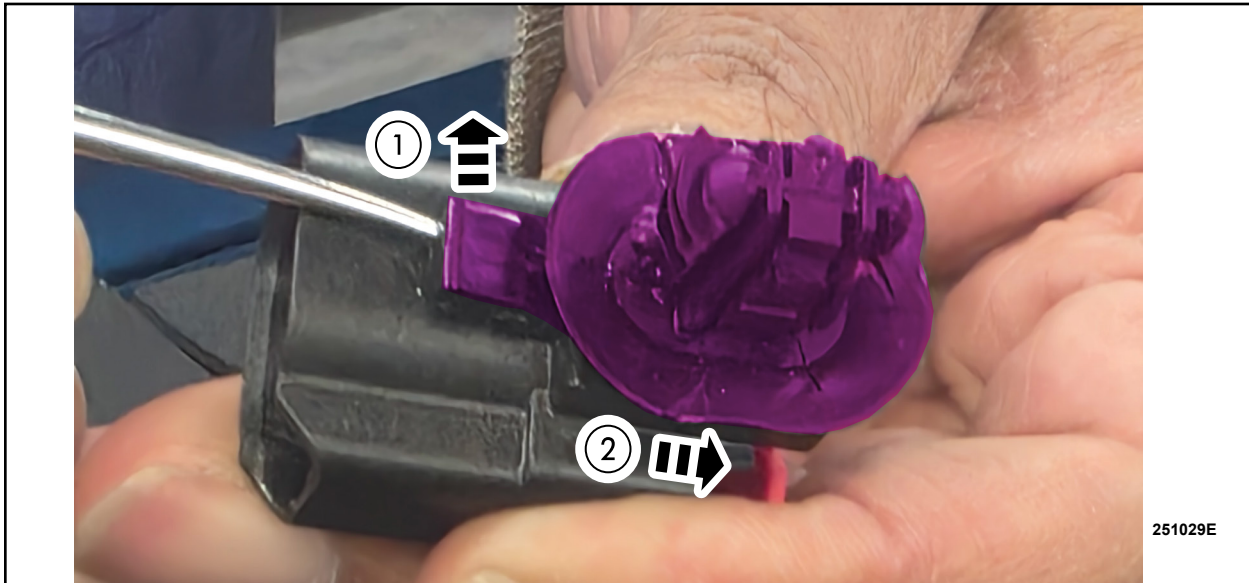

FIGURE 8
9. Lift up on the retaining tab and slide the fir tree retainer off of the original connector hardshell. See Figure 8.